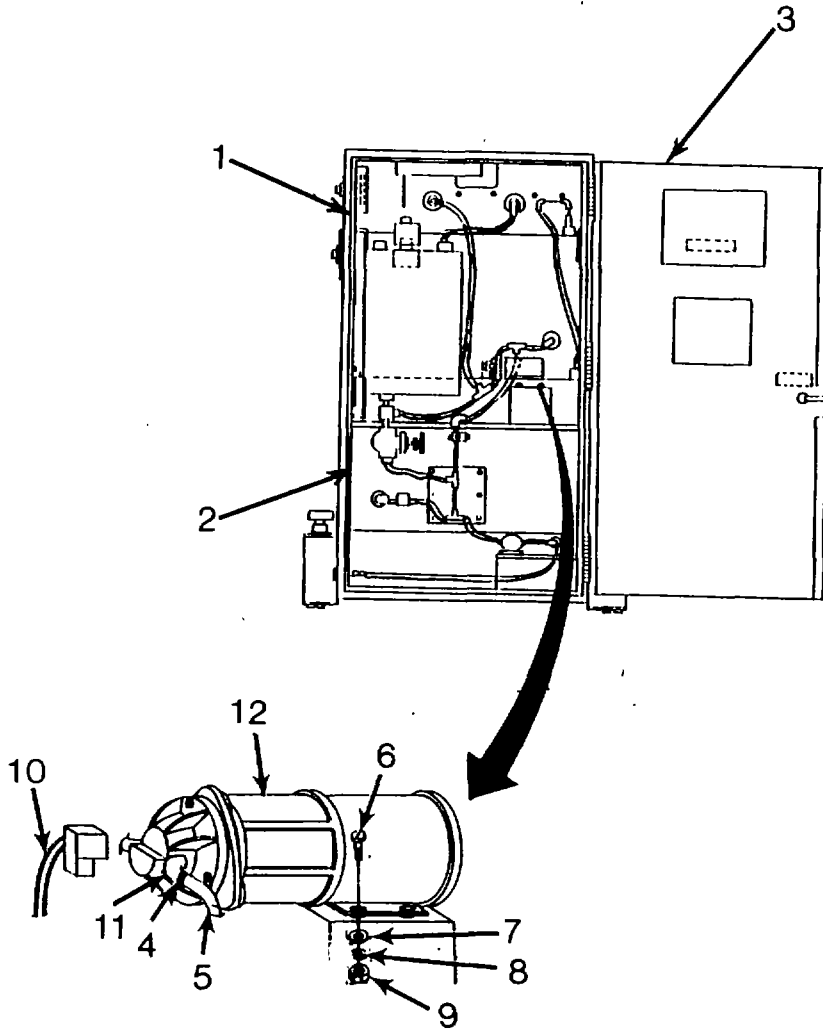

Figure 4-19. Replace Fresh Water Pump
- b. Repair by replacing Fresh Water Pump. (Figure 4-19.)